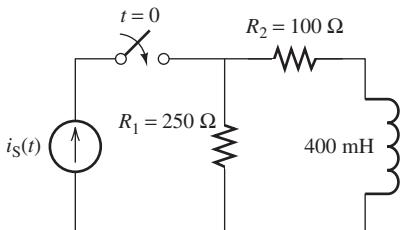

FIGURE P5.53 Circuit for Problem 5.53.
- 5.53** (A) The switch closes at $t = 0$ s. Given that the current source is $i_S(t) = 4\cos(100t)$. Find the voltage across the resistor R_2 for the circuit shown in Figure P5.53.